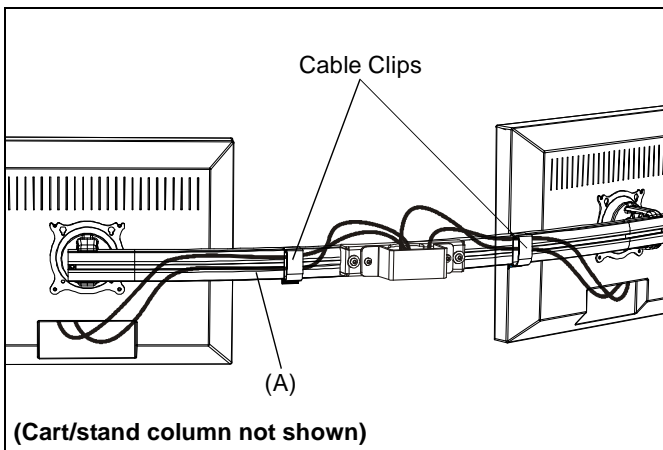

Figure 9
2. Route cables through cable clips on array assembly (A). (See Figure 9)